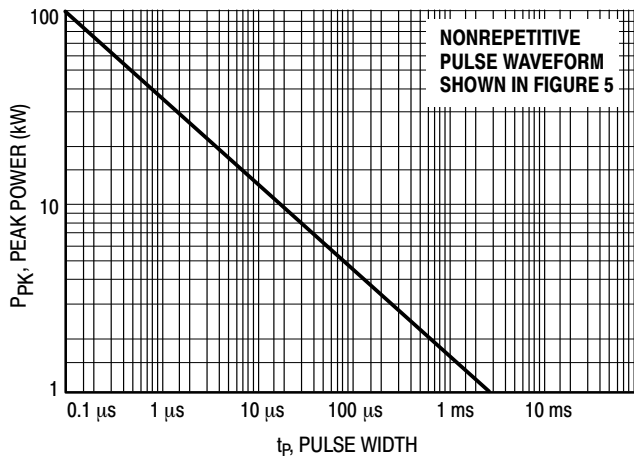
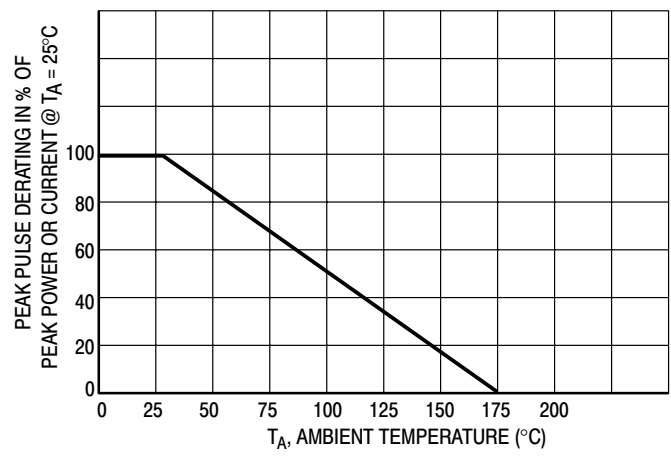
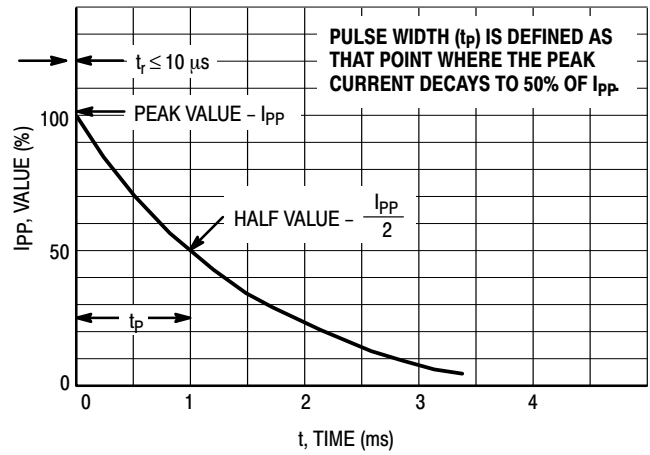
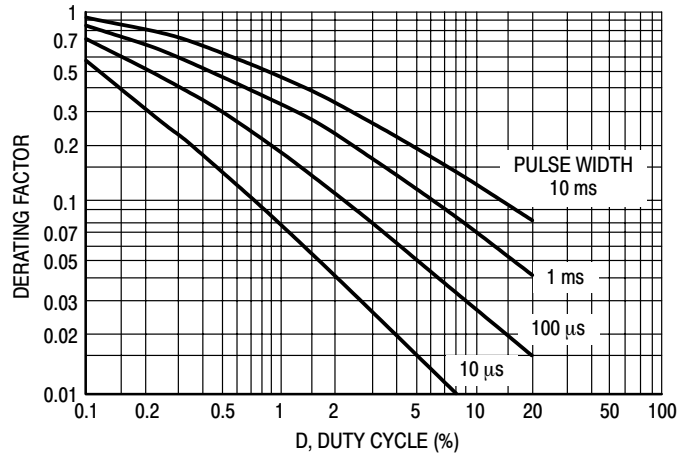

Figure 1. Pulse Rating Curve
Figure 2. Pulse Derating Curve
Figure 4. Pulse Waveform
Figure 6. Typical Derating Factor for Duty Cycle
1. Nonrepetitive current pulse per Figure 4 and derated above $T_A = 25^\circ\text{C}$ per Figure 2.
- Surge current waveform per Figure 4 and derate per Figures 1 and 2.
The data of Figure 1 applies for non-repetitive conditions and at a lead temperature of 25°C. If the duty cycle increases, the peak power must be reduced as indicated by the curves of Figure 6. Average power must be derated as the lead or ambient temperature rises above 25°C. The average power derating curve normally given on data sheets may be normalized and used for this purpose.
At first glance the derating curves of Figure 6 appear to be in error as the 10 ms pulse has a higher derating factor than the 10 μs pulse. However, when the derating factor for a given pulse of Figure 6 is multiplied by the peak power value of Figure 1 for the same pulse, the results follow the expected trend.